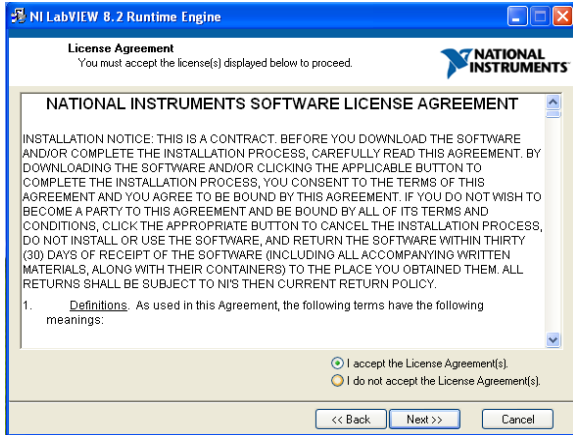

Figure 15. National Instruments Software License Agreement
6. Select **I accept the License Agreement(s)** and click **Next >>** to continue with the installation (see Figure 15).